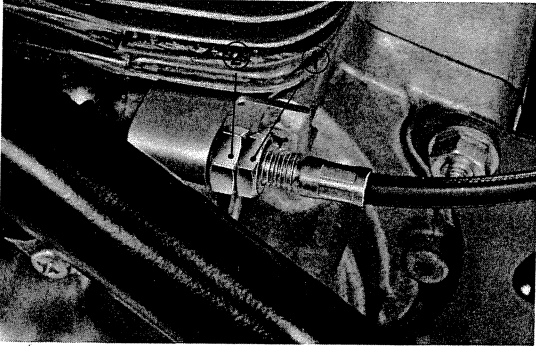

Fig. 26 ① Lock nut ② adjuster
7) Loosen the clutch wire lock nut and adjuster just enough to slacken the wire; disconnect the wire from the clutch lever. (Fig. 26)